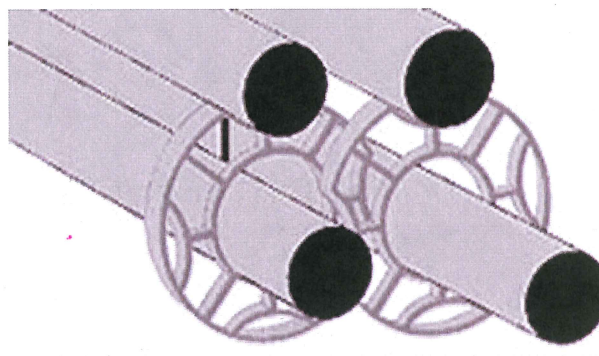

Figure 5: Example of a Donut Spacer
2. Donut type Spacers as shown in figure 5